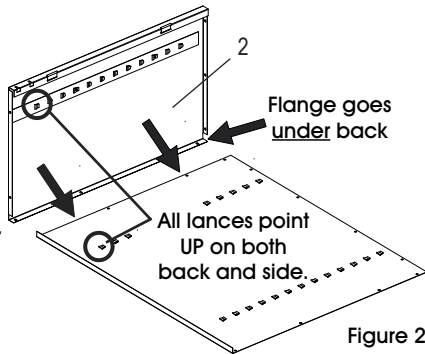

Figure 2
2. Attach the left side (2) to the back by placing flange around the back, and bolting the back and side together with four bolts and nuts. Be sure that the lances on all shelf adjustment strips point in the same direction. (See Figure 2)